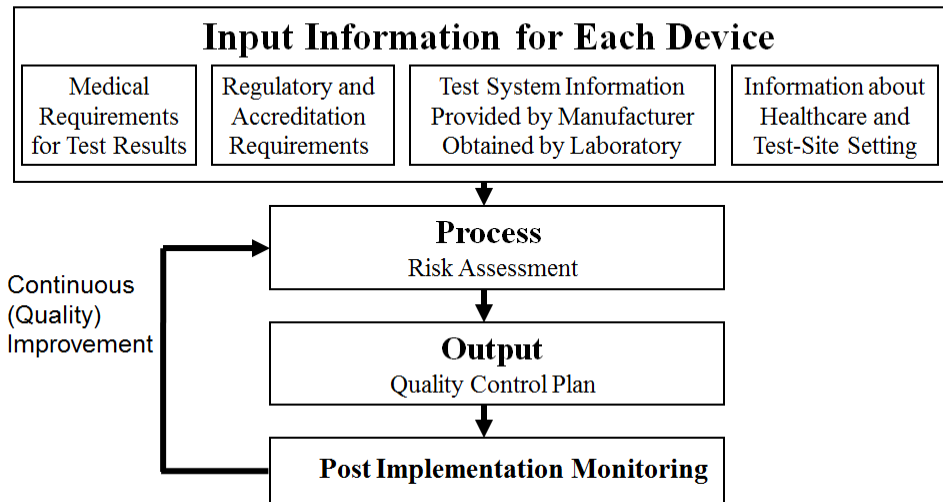

Figure 1: Overview of the IQCP Development Process⁴
EP23-A provides an overview (**Figure 1**) of the development process.³ So that the IQCP can be developed on appropriate facts, the process begins with gathering **information** on medical and regulatory requirements, test device/system capabilities, and the testing environment. The **risk assessment** (RA) process identifies risks/errors that potentially can impact test quality in all three phases of the testing process. Once the potential risks are identified, test sites review their current SOPs, policies, practices, and procedures and the OPTI Analyzers' built-in quality assessments and error mitigation features to determine which risks are eliminated and/or detected. For those risks/errors identified in the RA but NOT detected or eliminated, the test site then assesses the significance of each. For those judged to be significant, test sites need to implement additional risk mitigations.